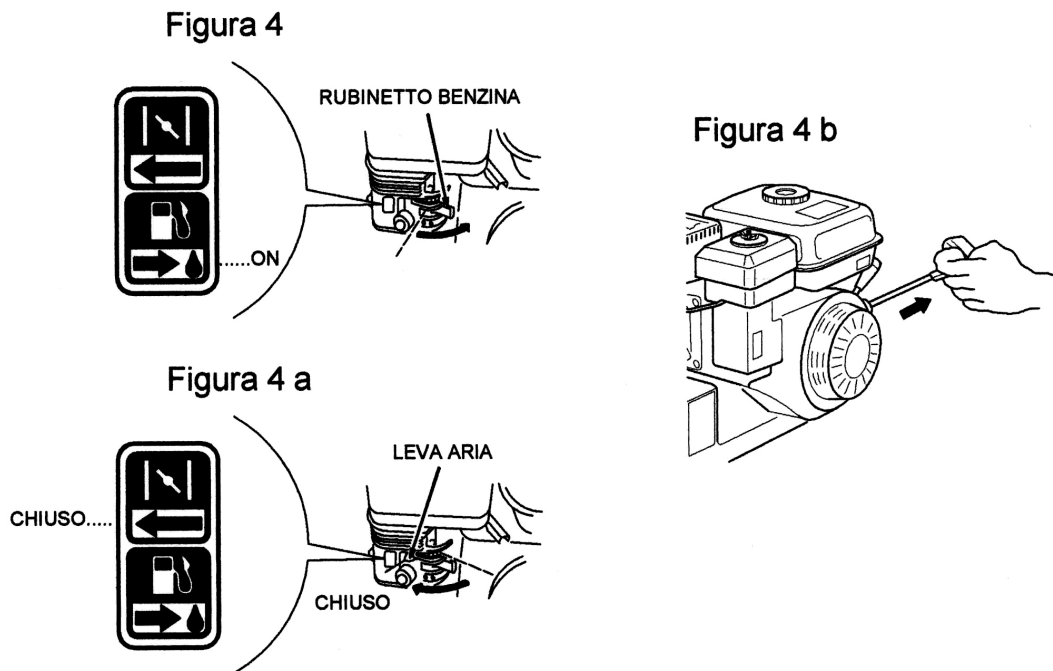

Figure 4
- For greater safety shut off the feed cock (Fig. 4).
Place the feed cock in the OPEN position (direction shown by the arrow) (fig. 4)